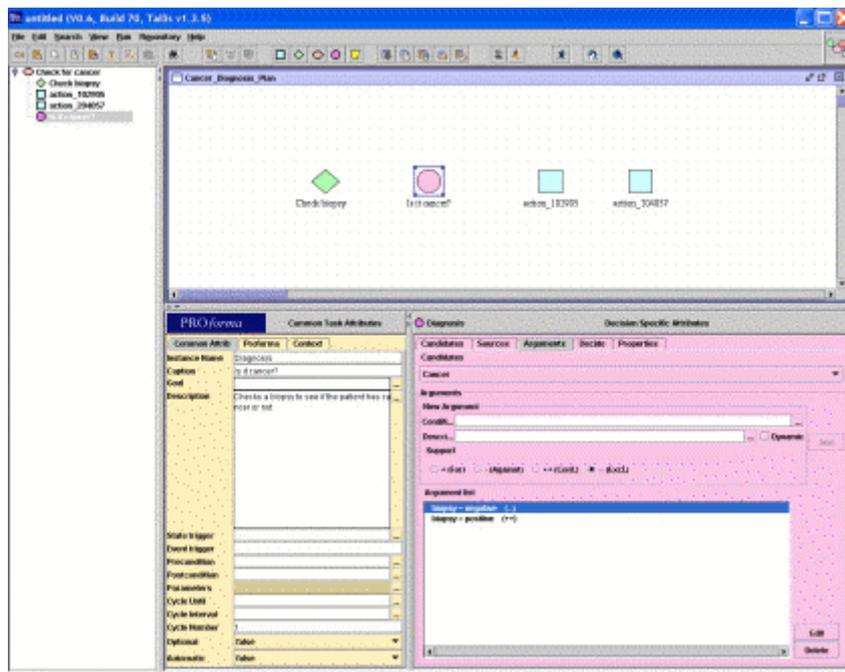

Figure 11: The arguments in favour/against the two candidates have now been set
7. Select the Arguments tab. In the Candidates drop-down list select Cancer (see Figure 11). In the Support field select the Confirming radio-button (++), then click the ellipsis button (...) to the right of the Condition field. This will display the Expression Editor. In the Key Pad Mode field of the Expression Editor select Templates.